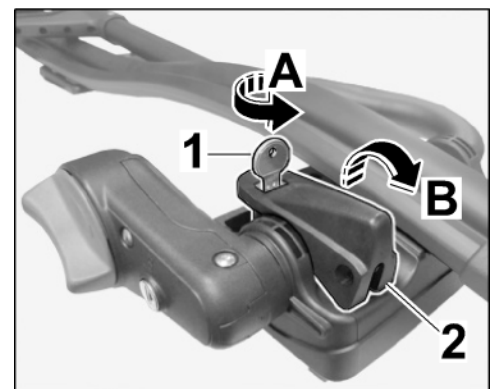

Figure 3
- 1.2.1 Unlock lock cylinder on tensioning lever with lock (⇒ *Figure 3-A*) and remove tensioning lever with lock (⇒ *Figure 3-B*).